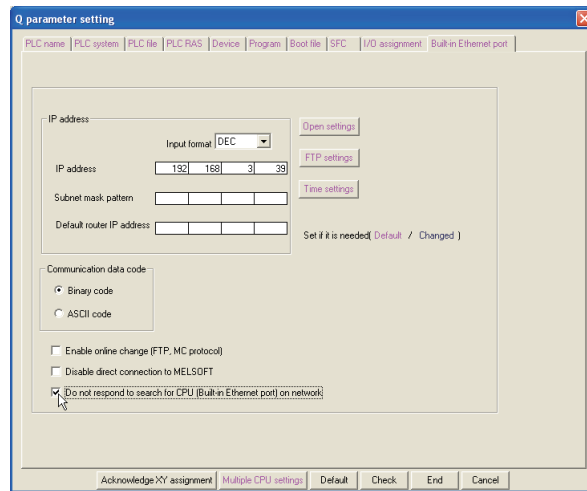

Figure 3.10 Built-in Ethernet port tab
- Select the checkbox in the Built-in Ethernet port tab of the PLC parameter dialog box in Figure 3.10 so that CPU modules to be searched do not respond on the network.